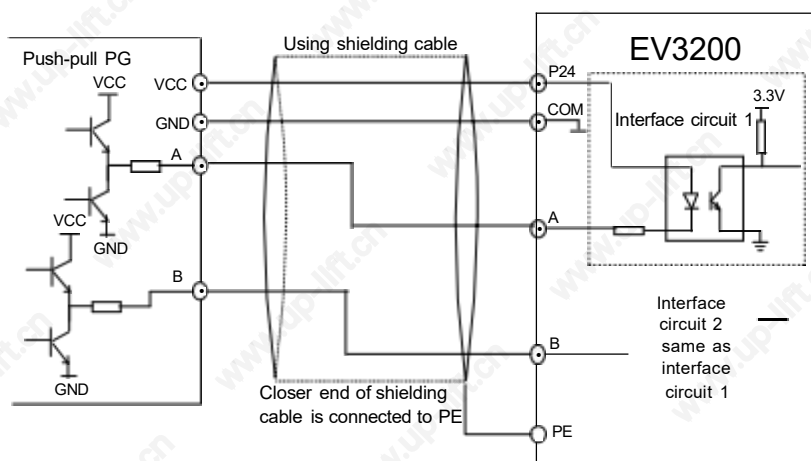

Figure 3-8 Wiring diagram of push-pull output PG
2. The wiring of the push-pull output PG is shown in Figure 3-8.